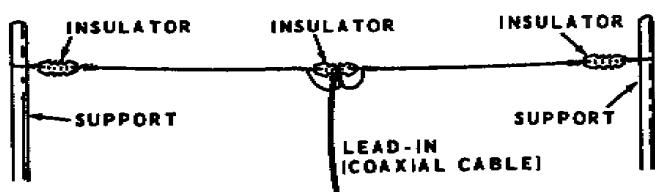

Figure 6
**1A.** Locate two supports that are fairly high from the ground and 50 to 100 feet apart. One support could be your house and the other a tree. Refer to Figure 6.